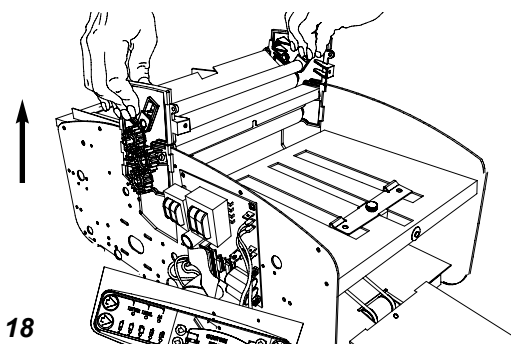

Fig. 18
- Remove (2) Philips pan head screws from the bearing blocks. Grasp each bearing block at the top edge and lift it straight up from the machine (**Fig. 18**).